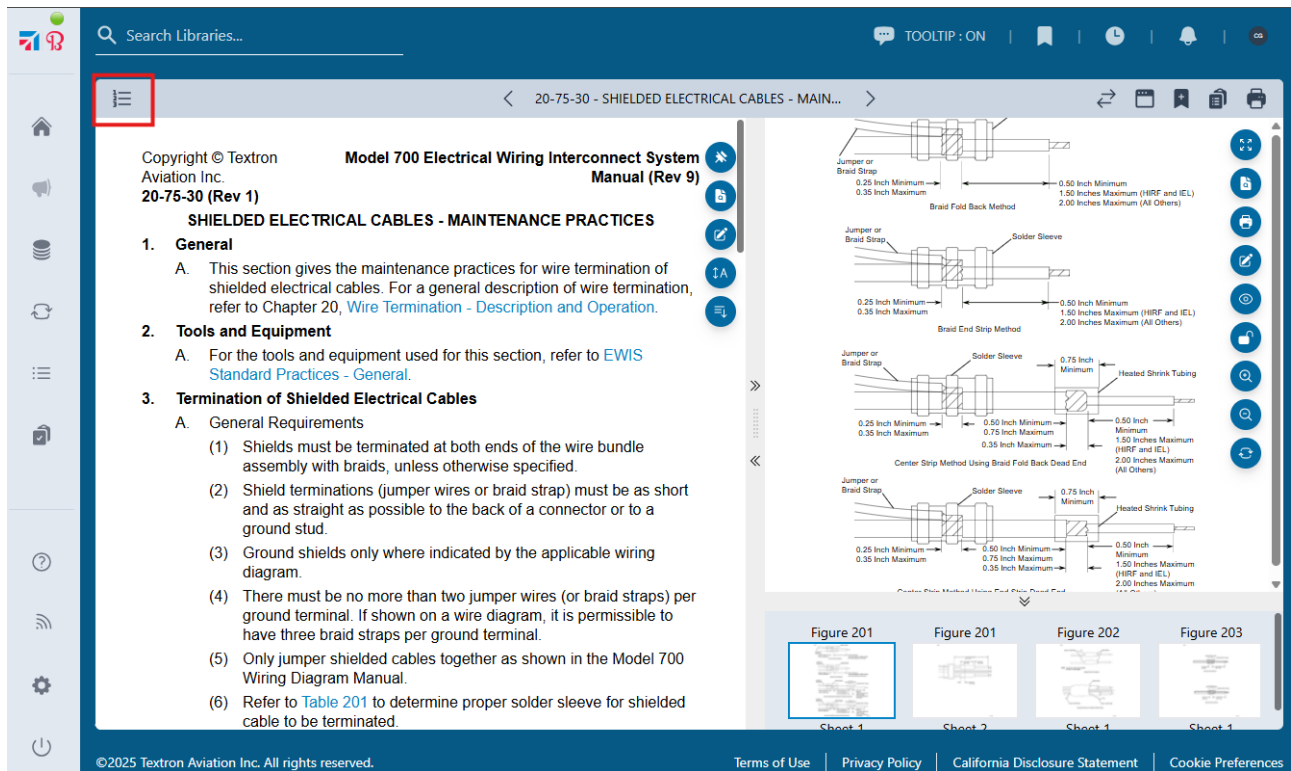

Figure 5 - Open Table of Content Button
- a. To show the TOC while viewing a document, click the OPEN TOC in the upper left hand corner of the screen (Refer to Figure 5).